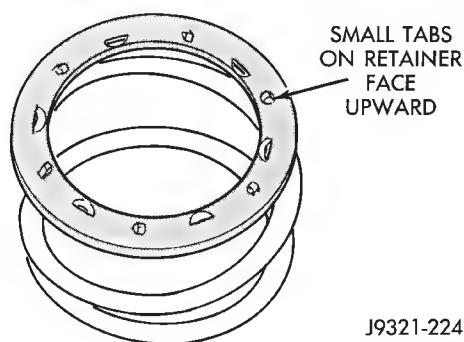

Fig. 68 Correct Spring Retainer Installed Position
(6) Position spring retainer on top of piston spring (Fig. 68). **Make sure retainer is properly installed. Small raised tabs should be facing upward. Semicircular lugs on underside of retainer are for positioning retainer in spring.**